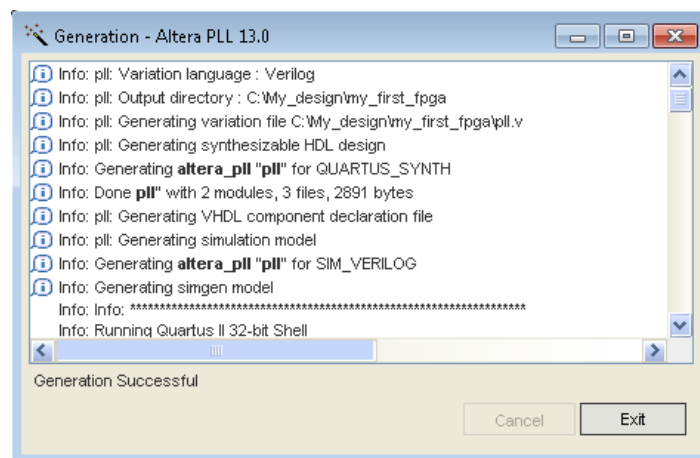

Figure 3-13 PLL Generation
8. Click Finish . It leads to **Figure 3-13**. Click Exit.